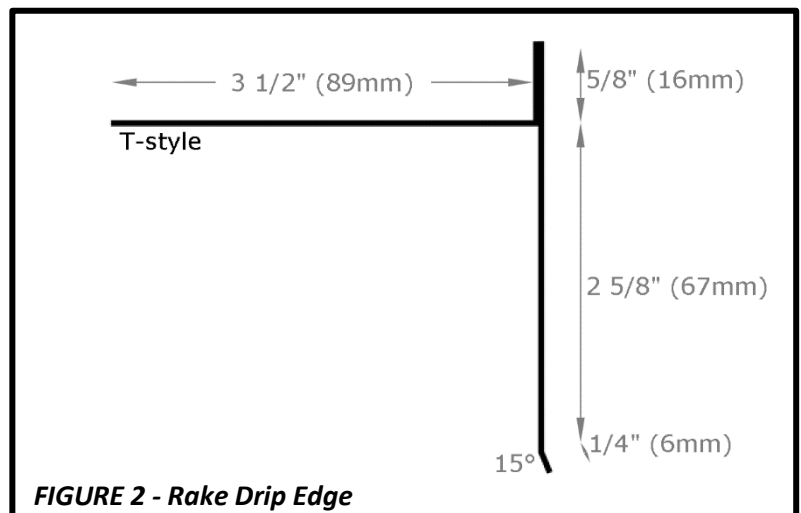

FIGURE 2 - Rake Drip Edge
- **RAKES** - FWAVE recommends a **T-style modified drip edge** at rakes to cover the cut edge of the REVIA® shingles. See **Figure 2**. Apply drip edge over underlayment at the rake edges. Trim shingles flush with the T-style drip edge.